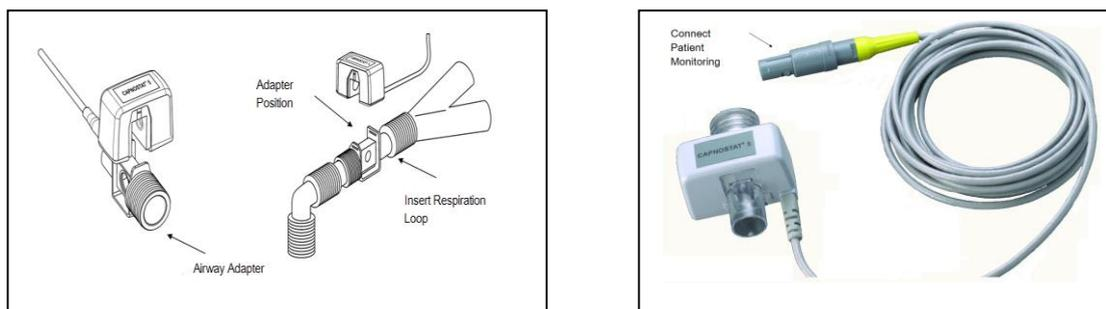

Figure 23-2 Mainstream CO2 module connection schematic
3. Make connections according to the CO2 module type as Figure 23-2 or Figure 23-3;